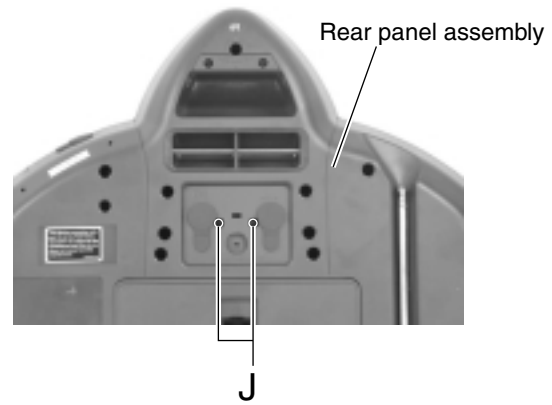

Fig.11
■ Removing the main board / sub (1) board / sub (2) board (See Fig.11 to 13)
6. Remove the screw **L** and disconnect the sub (1) board from connector CN341 on the main board.
7. Disconnect the sub (2) board from connector CN371 on the main board.